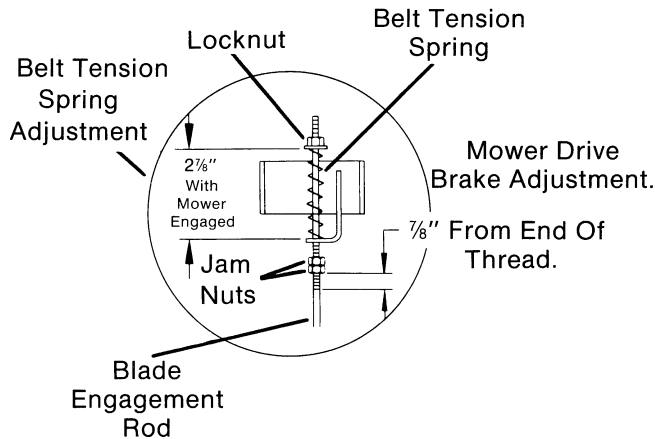

FIG. 17
- E. Turn jam nuts until the dimension shown in (Fig. 17) is achieved or until 7 second blade safe stopping time is met. (A test of the rider will have to be made with a stop watch with engine running at full speed and mower deck engaged to test stopping time).